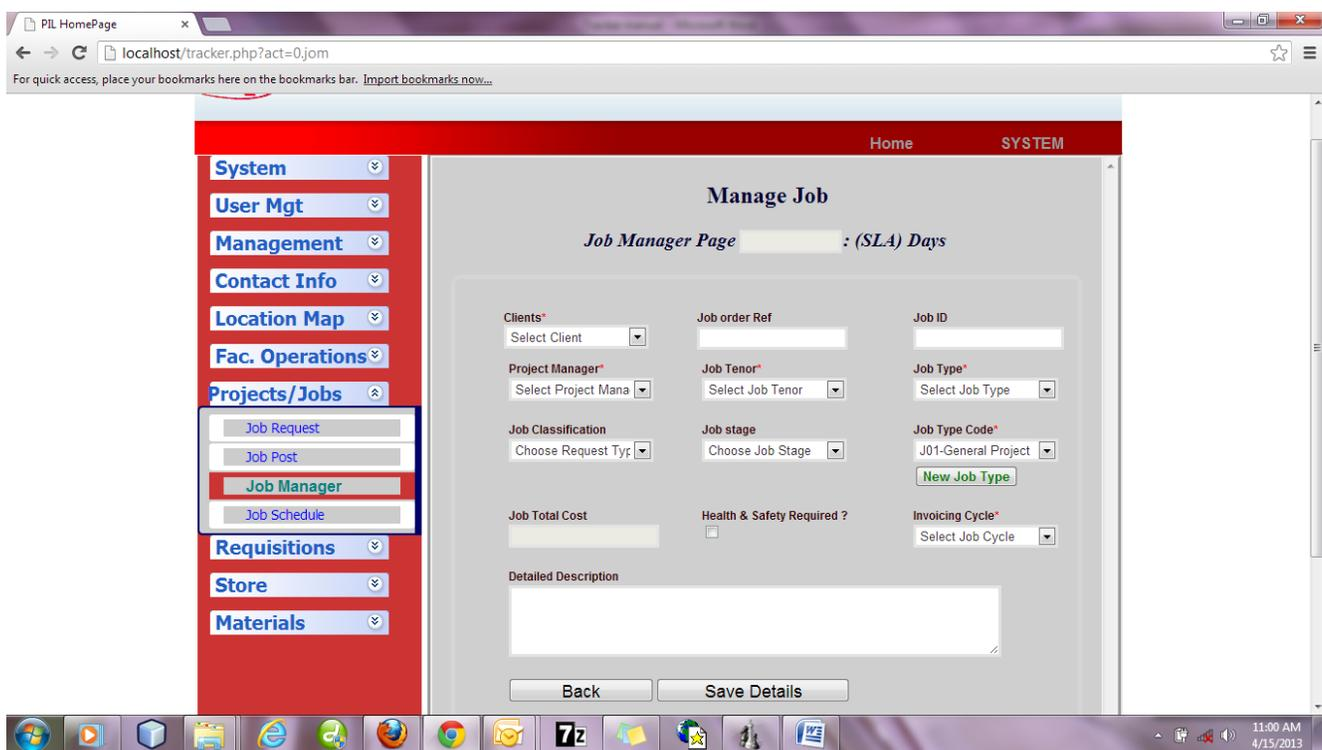

Fig. 5 Project/Job (Job Manager Page)
- The Job Scoping page can be displayed from the Job Manager page (fig 5.).